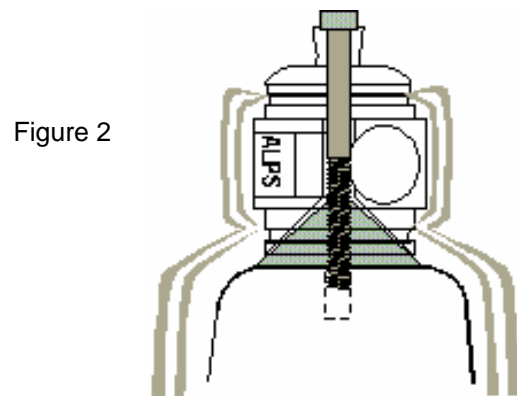

Figure 2
- a. The model is now ready for lay-up and lamination. Select the appropriate size of carbon tubular weave. Cut a piece 30" to 40" long (twice the socket length) and a piece 8" to 10" long. Apply the longer carbon weave to the cast. **Using the enclosed kevlar thread, tie the carbon into the steel groove of the pyramid (figure 2). Make sure that the carbon weave is pulled into the groove along the entire circumference. The kevlar thread is supplied in 3 foot lengths to allow you to wrap the ends around two handles, (Example: Two pieces of aluminum tube), in order to be able to apply**